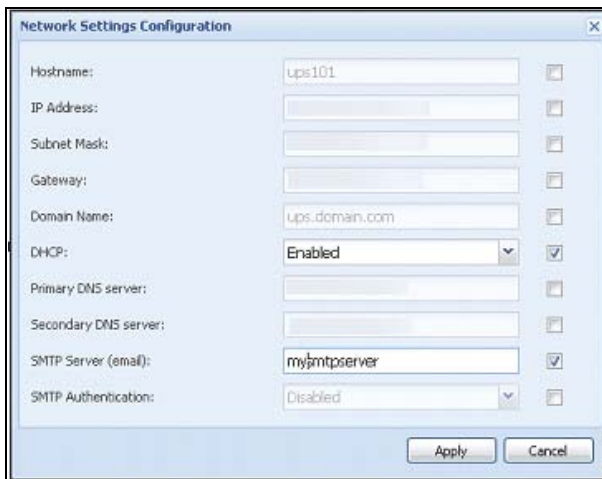

Figure 85. Network Section
5. In the Network Settings Configuration dialog box, check the parameters you want to change and type the new values (see Figure 85).